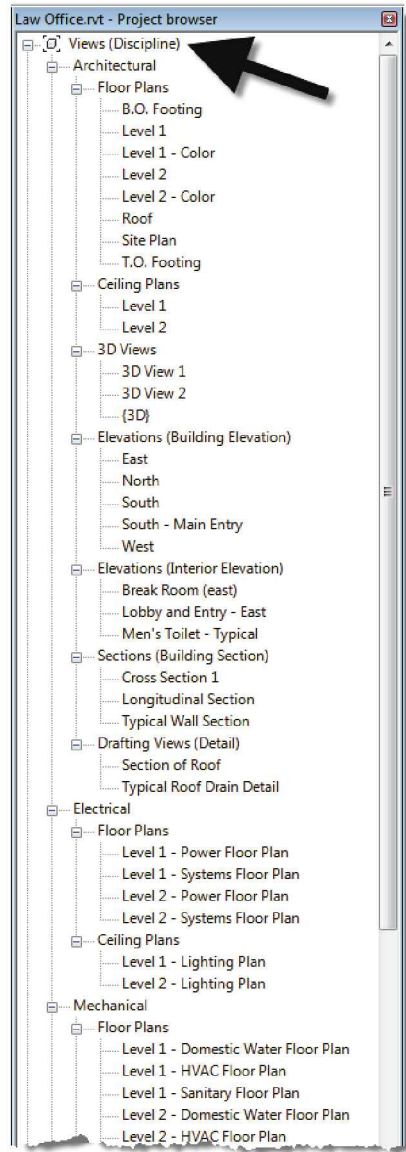

FIGURE 16-1.13
28. Take a general look at the *Project Browser* to see how many views are listed. (See Figure 16-1.13 on page 16-11.)